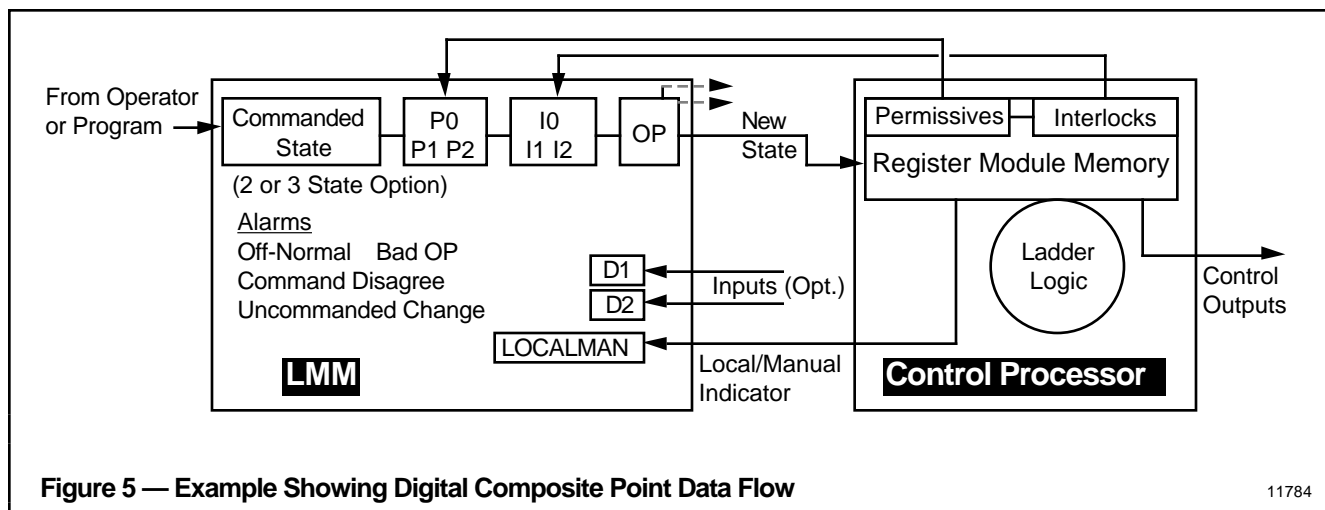

Figure 5 — Example Showing Digital Composite Point Data Flow
Digital composite (DC) points are multi-input/multi-output digital points. They provide an improved view of the process to the operator. They are primarily faceplates to display motor control functions implemented in the relay ladder logic program. Figure 5